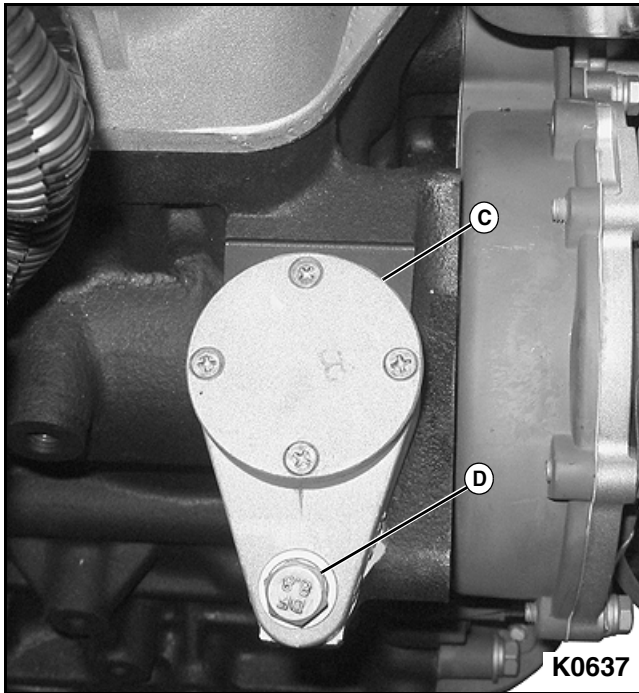

Figure 3-108
3. Secure oil pump drive (C) to cylinder block using bolt, flat washer, and lock washer (D). Tighten bolt to specification. **See Figure 3-108.**